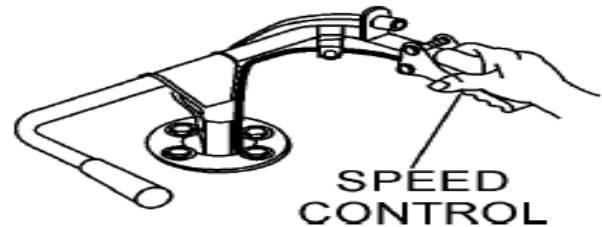

Figure 16. Speed Control Lever
5. Slowly squeeze the speed control lever slightly (Figure 16), for a short period of time to test the brake holding capacity. If the buggy moves forward, adjust the brakes as outlined in the maintenance section of this manual.
2. Squeeze the speed control lever (Figure 16) slightly until the buggy begins to move in a forward direction. Initially, let the buggy travel at about 3 MPH.
3. Check the speed control lever (Figure 16) located on the right side of the handle bar. The speed control should work freely when squeezed by hand, and return to the closed position when released.